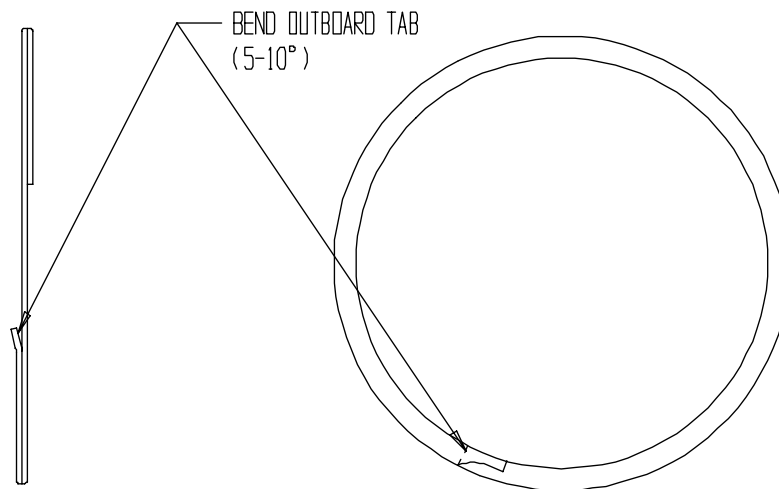

Figure 1. Lock Ring Modification.
1. The large lock ring must be modified similar to Figure 1. This is to aid in the removal of the lock ring when service is required.